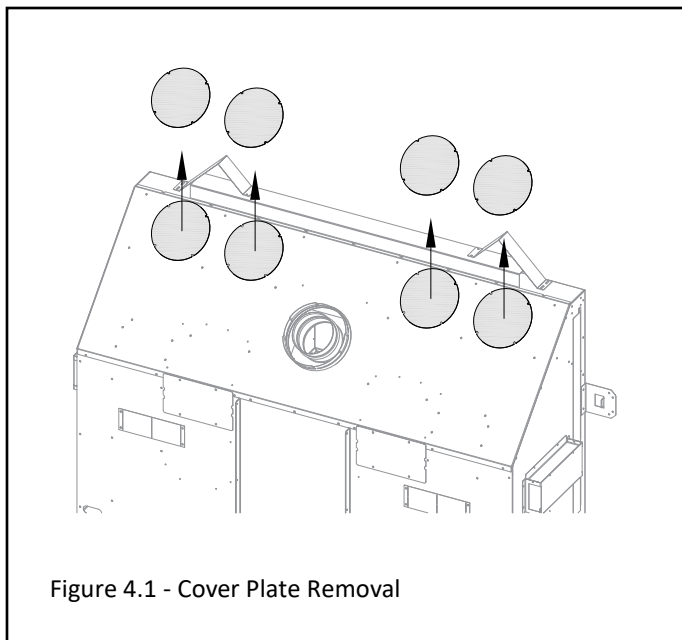
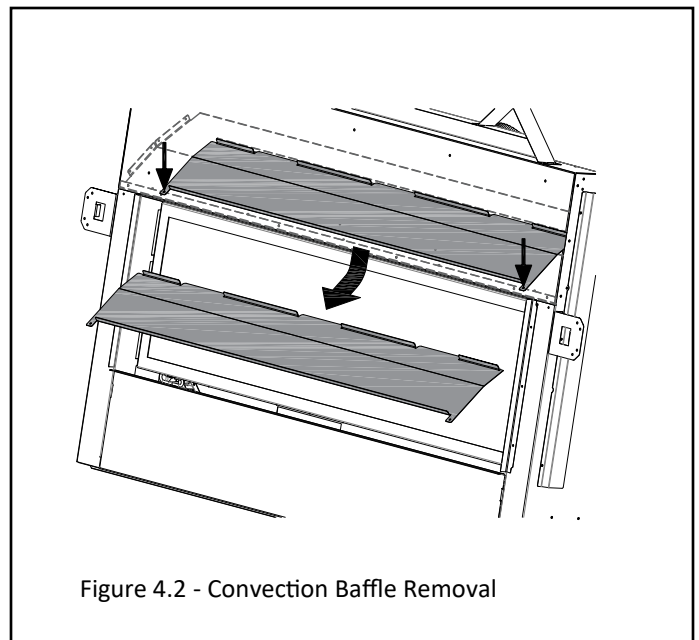

Figure 4.1 - Cover Plate Removal
Figure 4.2 - Convection Baffle Removal
- The appliance cover plates and convection baffle must be removed for Komfort Zone Kit installations, as shown in Figure 4.1 & Figure 4.2.
1. Remove the (4) circle cover plates. (4) screws per cover plate. See Figure 4.1.
2. Remove the convection baffle from the appliance. The baffle is secured by (2) screws right behind the upper edge of the fireplace opening. See Figure 4.2. Recycle this panel as it is no longer needed.